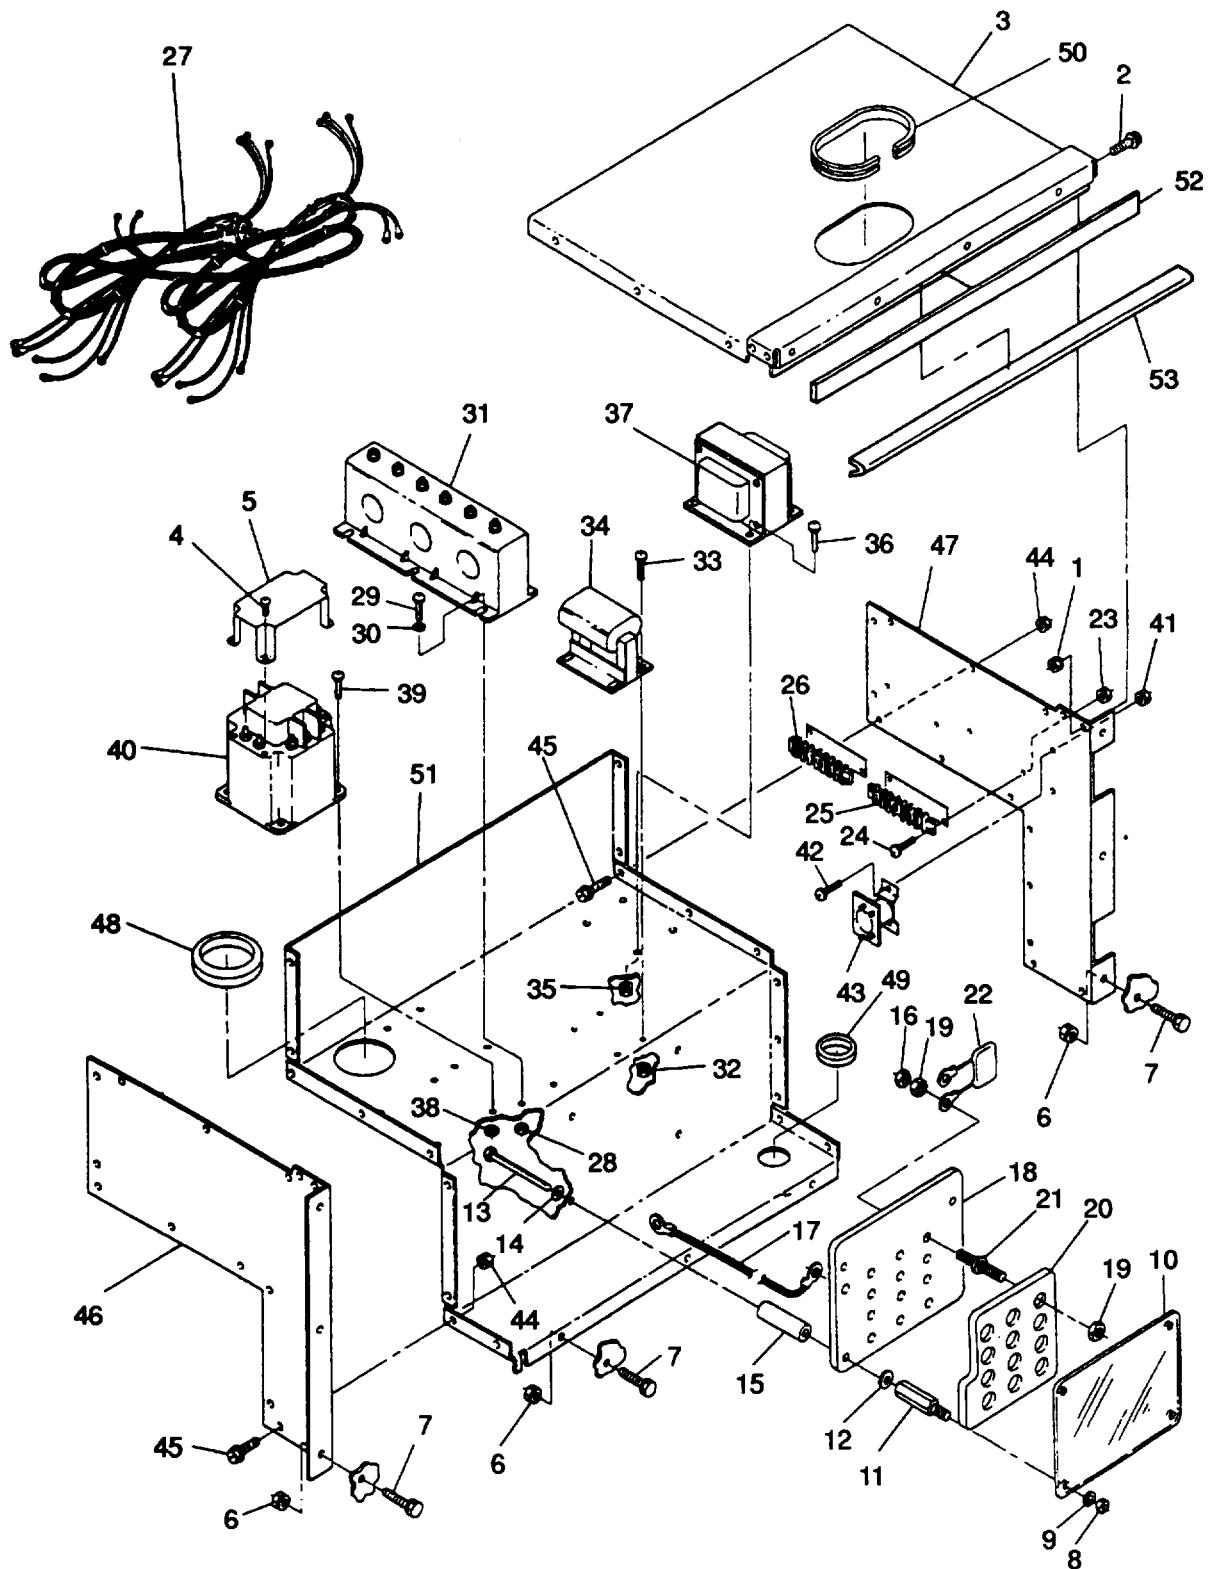
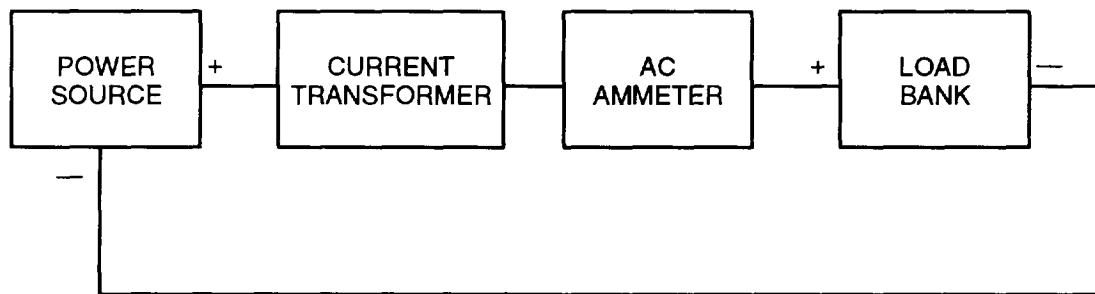

FIGURE 4-3. Output Box Assembly
FIGURE 4-4. Testing Current Transformer
- k. Remove nuts (1, FIGURE 4-3), bolts (2), and output box top panel (3) from output box assembly.
- q. Remove nuts (6, FIGURE 4-3), bolts (7), and output box assembly from generator set.
- a. Install output box assembly in generator set with bolts (7, FIGURE 4-3) and nuts (6).
- c. Connect exciter leads F1 and F2 to terminals 1 and 2 of terminal board (26, FIGURE 4-3), and remove tags.
- d. Connect output cables to terminals A2, B2, and C2 of AC circuit interrupter relay (40), and remove tags.
- e. Install cover (5) on AC circuit interrupter (40) with screws (4).
- f. Install main generator cables onto current transformer (31) and droop current transformer (34) the same number of wraps recorded during removal.
- k. Install output box top panel (3) with bolts (2) and nuts (1).
- d. Remove nuts (8, FIGURE 4-3), washers (9), and cover (10) from voltage reconnection board (18).
- e. Unscrew standoffs (11) and remove washers (12), bolts (13), washers (14), and mounts (15).
- f. Remove nuts (16), tag and disconnect electrical cables (17) and main generator cables from voltage reconnection board (18).
- g. Remove voltage reconnection board (18) and moveable terminal board (20) from generator set as assembly.
- h. Tag position of capacitors (22) on voltage reconnection board (18).
- i. Remove nuts (19), movable terminal board (20), studs (21), and capacitors (22) from voltage reconnection board (18).
- a. Insert studs (21, FIGURE 4-3) in voltage reconnection board (18). Position capacitors (22) as tagged, align moveable terminal board (20) with voltage reconnection board (18) and install nuts (19). Remove tags.
- b. Position voltage reconnection board (18) and moveable terminal board (20) in generator set.
- c. Connect electrical cables (17) and main generator cables to voltage reconnection board (18) with nuts(16) and remove tags.
- d. Secure voltage reconnection board(18) to generator set with bolts (13), washers (14), mounts (15), washers (12), and standoffs (11).
- e. Install cover (10) with washers (9) and nuts (8).
- g. Open output box access door. Remove screws (4, FIGURE 4-3) and cover (5) from AC circuit interrupter relay (40). Tag and disconnect electrical leads from cranking relay (43), current transformer (31), AC circuit interrupter relay (40), power potential transformer (37), and voltage reconnection board (18).
- h. Tag and disconnect electrical leads for droop current transformer (34) from terminal board (25).
- i. Remove screws (24) and nuts (23) securing terminal boards (25) and (26) in output box.
- k. Remove output box harness (27) from output box and generator set.
- a. Position output box harness (27, FIGURE 4-3) in output box and generator set.
- c. Secure terminal boards (25) and (26) in output box with screws (24) and nuts (23).
- d. Connect electrical leads for droop current transformer (34) to terminal board (25) and remove tags.
- e. Connect electrical leads to AC circuit interrupter relay (40), current transformer (31), cranking relay (43), power potential transformer (37), and voltage reconnection board (18). Install cover (5) with screws (4) on AC circuit interrupter relay (40). Remove tags and close output box access door.
- f . Tag and disconnect current transformer (31, FIGURE 4-3) electrical leads.
- g . Tag and disconnect main generator cables T2 and T8 from voltage reconnection board (18).
- h . Unwrap main generator cables from droop current transformer (34) and current transformer (31). Note number and direction of wraps.